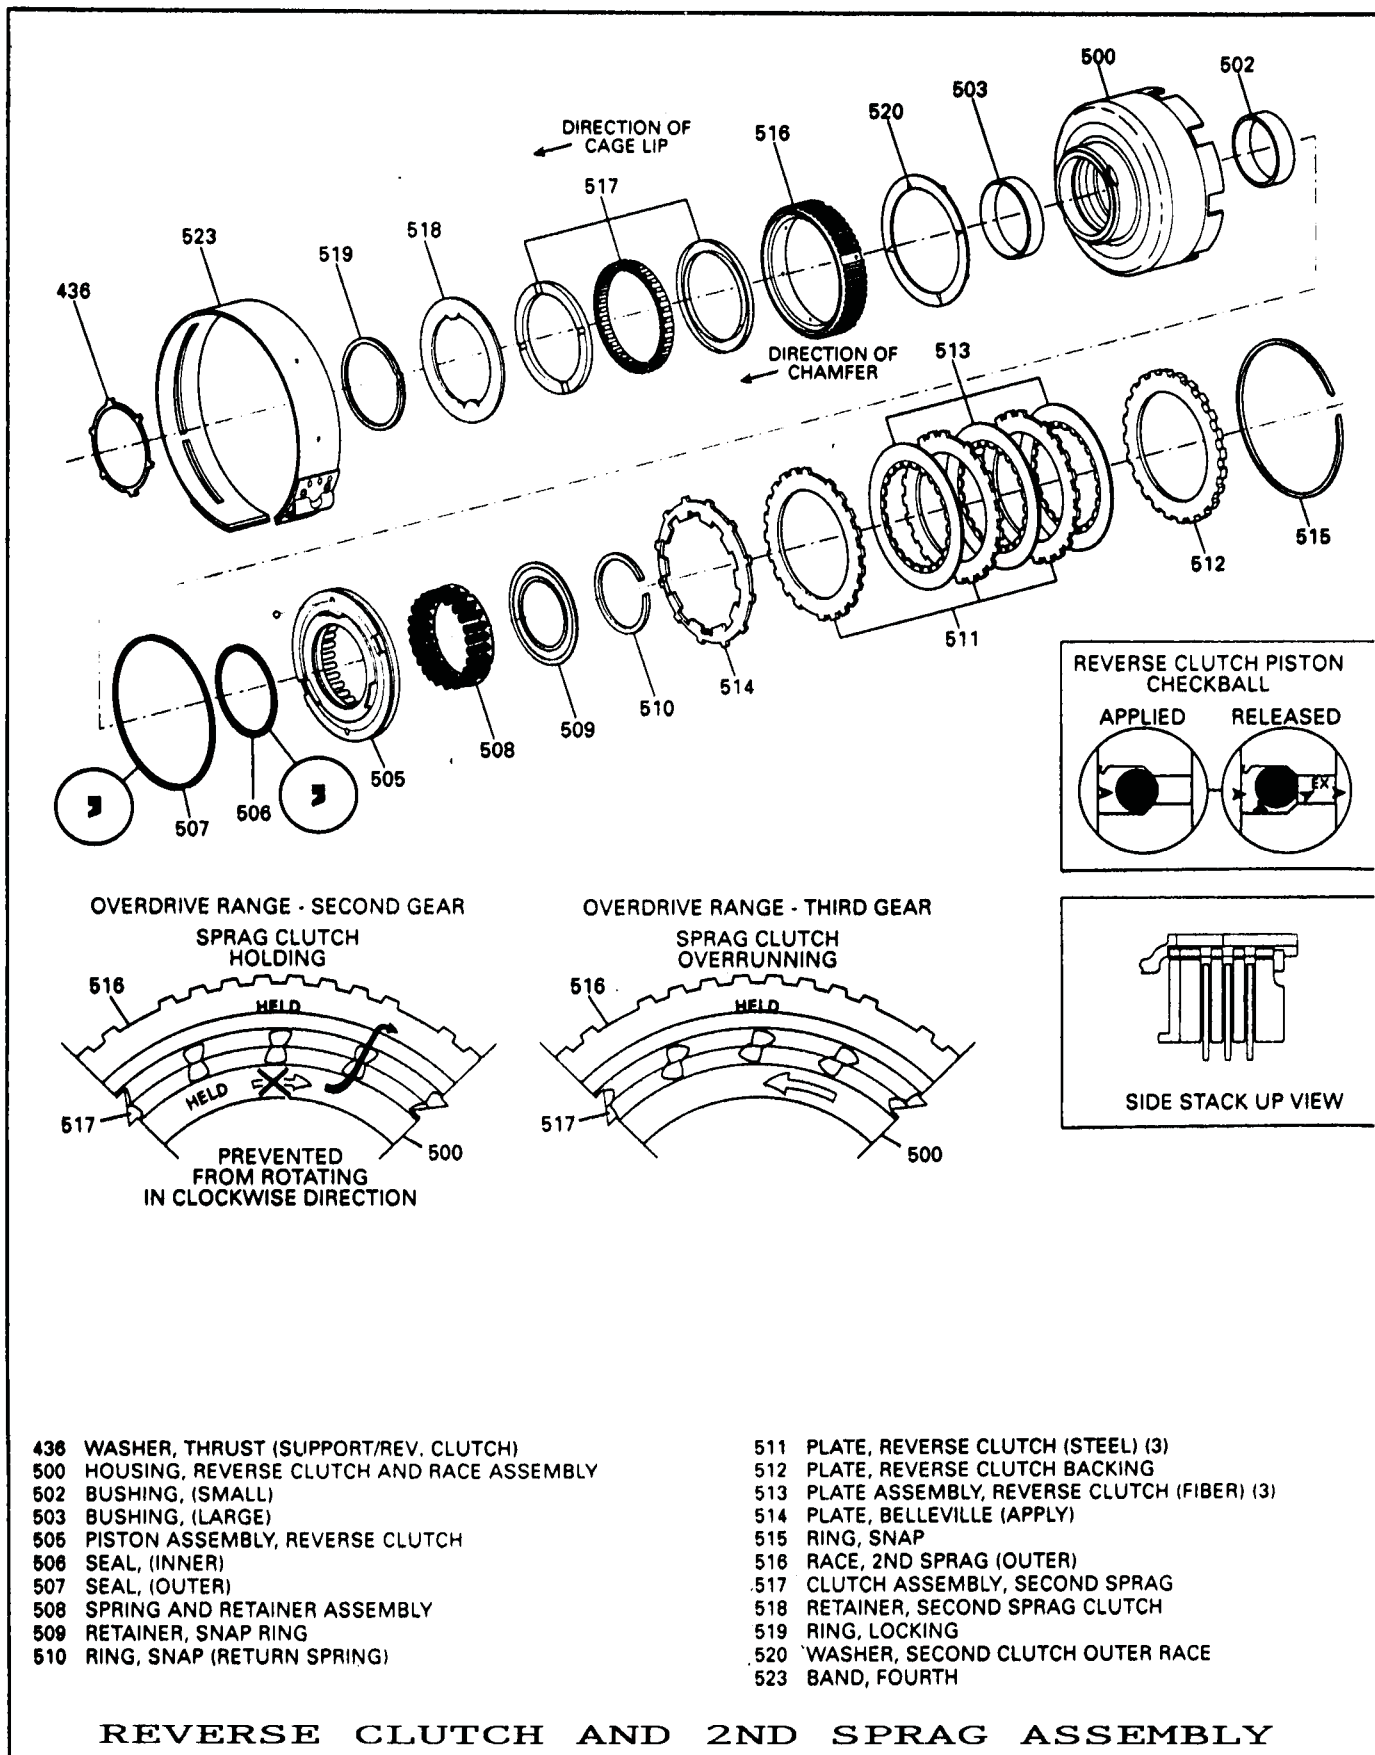

Figure 66
1. Disassemble and clean all parts using Figure 66 as a guide.
3. Install new lip seals onto the reverse clutch piston with the lips facing the direction shown in Figure 66.
6. Install the return spring retainer onto the piston, and snap ring retainer on top of it (See Figure 66).
10. Install reverse clutch plates starting with a steel plate, alternating with lined plate, until you have 3 of each (See Inset Fig. 66).
11. Install the backing plate with stepped side facing up (See Inset Figure 66).
12. Install the backing plate snap ring as shown in Figure 66.
13. Install 2nd clutch outer race thrust washer on housing and retain with TransJel (See Figure 66).
14. Install 2nd sprag assembly onto the reverse housing with the sprag cage lip facing up as shown Figure 66.
15. Install sprag outer race onto sprag by rotating clockwise, with chamfer facing up as shown in Figure 66.